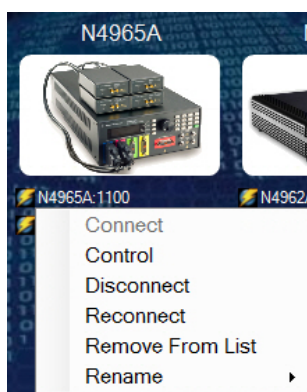

Figure 5. Accessing the N4965A-CTR control panel
6. In the N4965A-CTR control panel select the **N4957A-C12** tab. Refer to Figure 5.
7. Under **Input Clock**, ensure that the **Freq** is **10000 MHz**. Actual frequency is 9950 MHz. Refer to Figure 5.
8. Under **Output Clock**, ensure that the **Freq** is **20000 MHz**. Actual frequency is 19900 MHz. Refer to Figure 5.
9. Under **Output**, click the **On** button to turn the output on (a green check appears in the button). Refer to Figure 5.